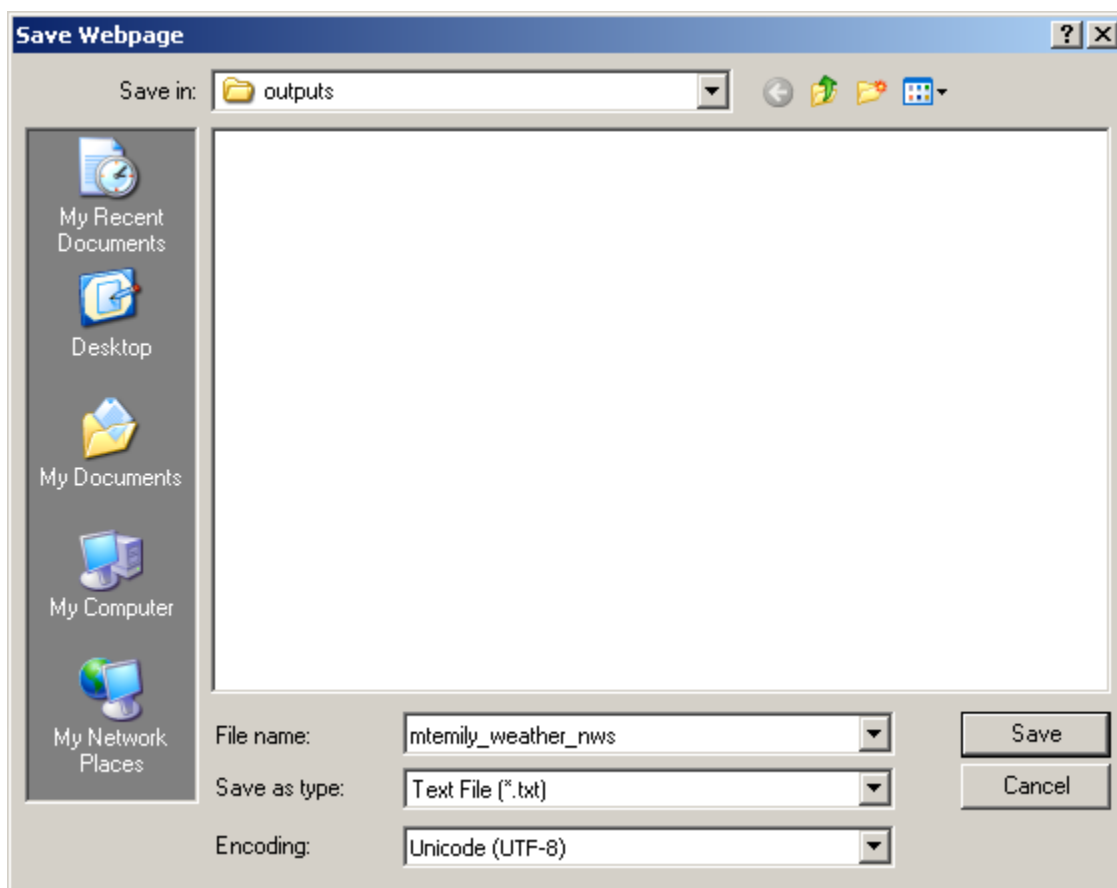

Figure 3-40—Saving the data as a text file.
- a) To use this data in FlamMap it needs to be saved as a *.txt file (**Internet Explorer main menu→File→Save As**) then be converted to a *.wtr file. Navigate to and save the file as “mtemily_weather_nws” as a text file (*.txt) in the outputs folder of the ArcFuels directory (fig. 3-40).